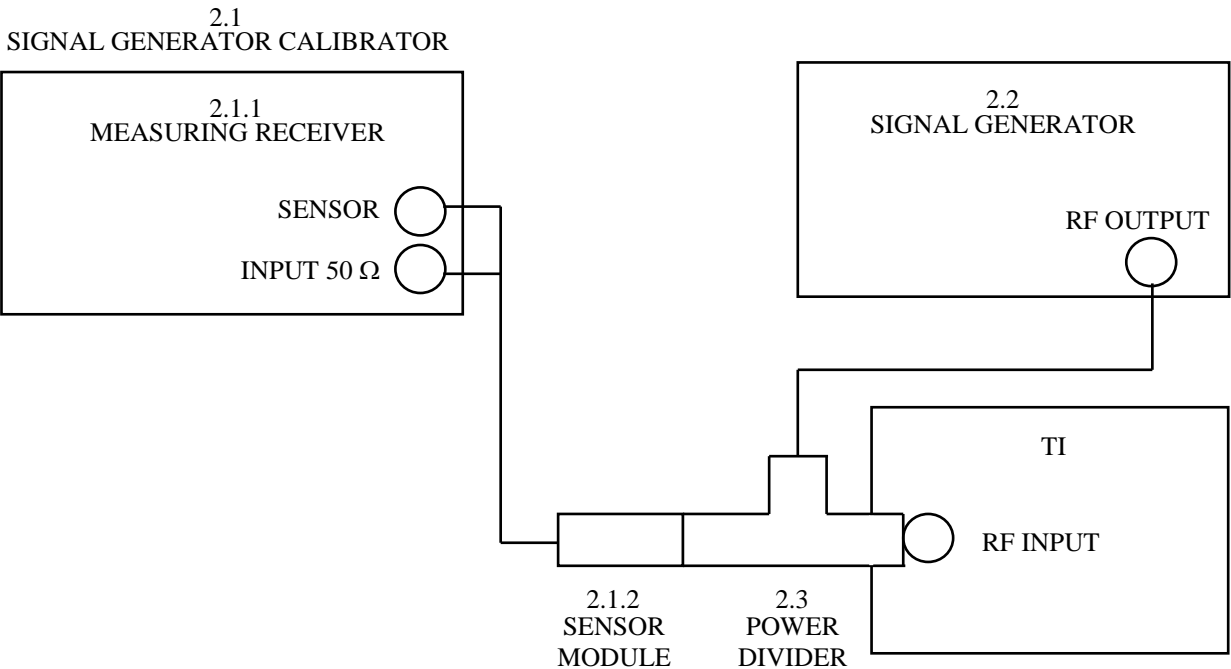

Figure 3. Carrier Frequency/Sensitivity Test Configuration
4.2.1.1 Connect the equipment as shown in Figure 3.